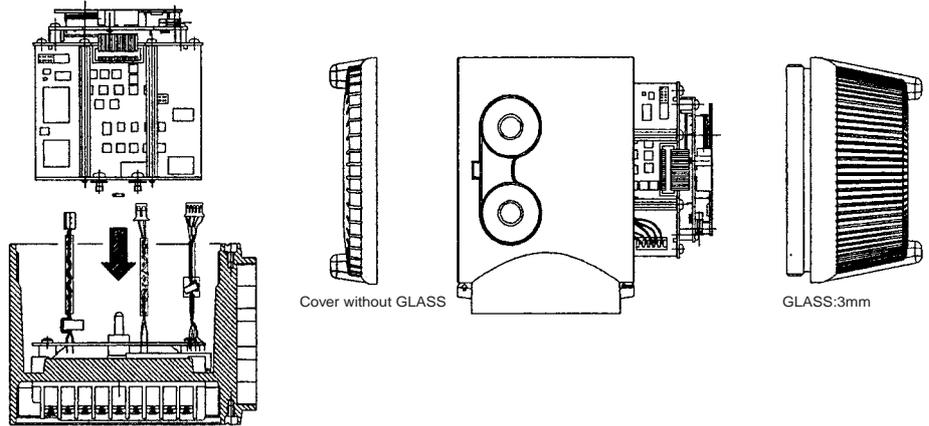

Figure 4.9.7 Setting Converter Unit in Junction Box
- (1) Insert the connector pins of the amplifier into the two connectors on the terminal board of the junction box, aligning the holes of the plate with the positioning pins as shown in the figure.
- (2) Engage the connectors to the amplifier. (See Figure 4.9.7.)
- (3) After checking that the connections are secure, firmly tighten the fixing three screws.
- (4) Screw in the cover firmly as shown in Figure 4.9.7.